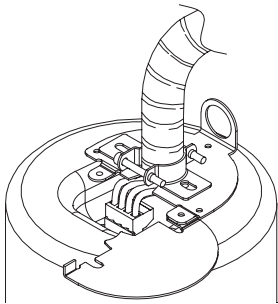

Figure 15: Alternate conduit fitting
2. If the installation used flexible (BX) or rigid (EMT) conduit, an alternate conduit fitting can be used. See Installation Note and Figure 15 below.